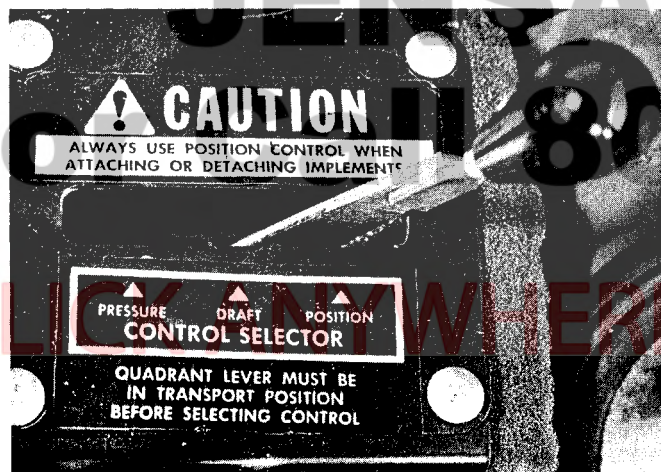

Fig. 32 — Control Selector Lever
1. Place control selector lever, Fig. 32, in Position Control.